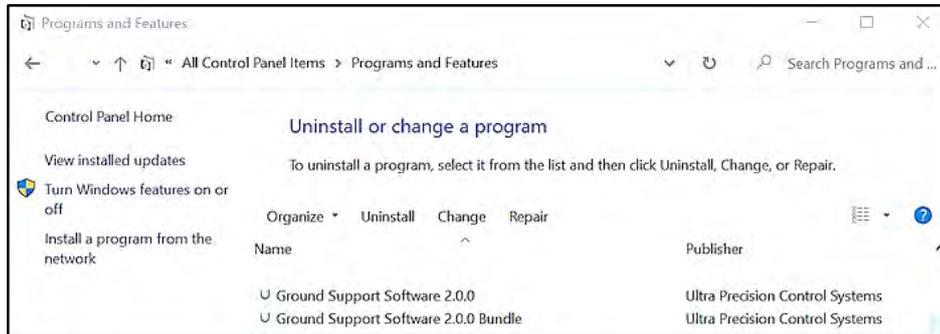

Figure 2-12 GSS 2.0.0
- (1) Select the Windows start menu.
- (2) Select Windows System from the menu.
- (3) Select Control Panel.
- (4) Select Programs and features.
- (5) Highlight Ground Support Software 2.0.0 and click on change. (Ref fig 2-12)